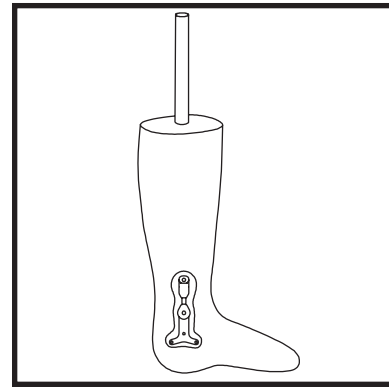

Figure 3: Outline of PolyCar-C™
6. Outline the PolyCar-C™ pattern on the cast as shown in Figure 3. Coat this area with Poly Adhesive.